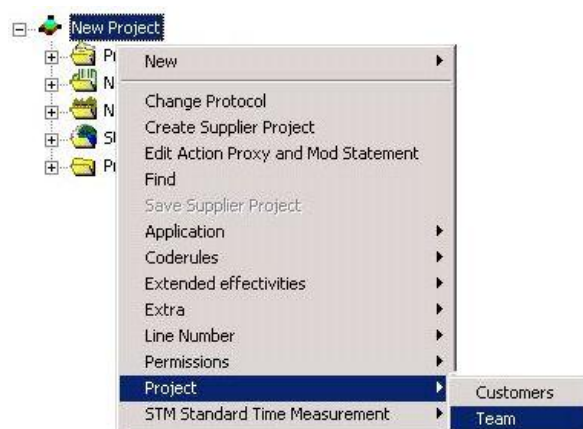

Figure 215: Creating a Project Team
- 1) Open the context menu of a project node and click **Project < Customer**. The **Customer** dialog opens. *Please refer to the Figure 215*.
To make entries, you need to open the **Project Team** dialog. To open the dialog, *Please refer to the Creating Customer Data and Figure 215*. To make an entry in this dialog, you must double-click the corresponding field.